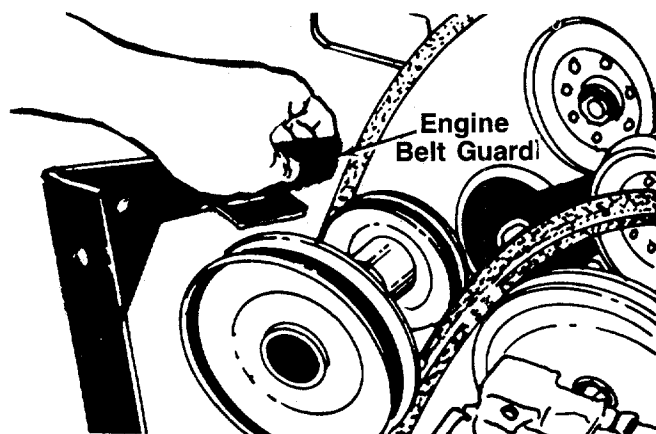

FIGURE 35.
7. Remove two hex bolts, nuts and lock washers from the engine pulley belt guard at rider frame to allow the engine pulley belt guard to drop down out of the way. See figure 35.